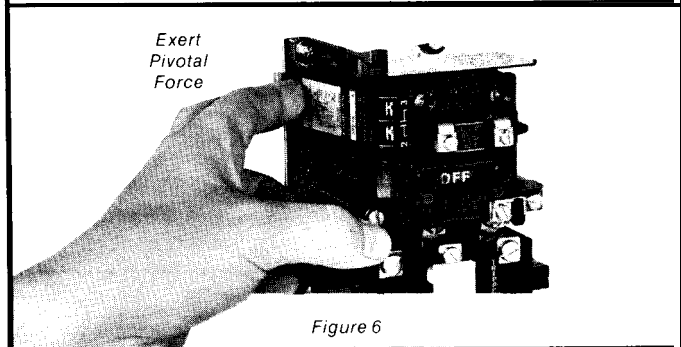

Figure 6
4. Exert a pivotal force at the lower end of the block until it snaps into place. (Refer to Figure 6 on Page 5.)